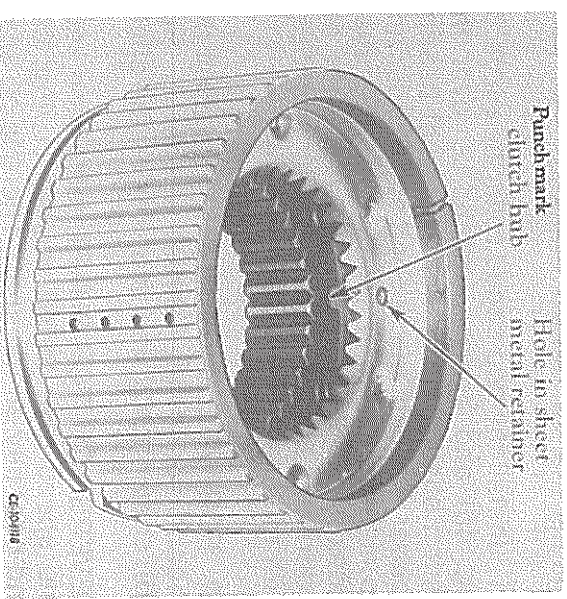

FIG. 65 — Clutch Hub Assembly
16. Be sure the small hole in the sheet metal retainer is in line with the punch mark in the clutch hub (Fig. 65). Position the clutch hub assembly onto the shaft by properly aligning the sheet metal retainer and hub splines to the clutch shaft splines (Fig. 48).
NOTE: When positioning the clutch hub assembly on the shaft, the splines of the retainer will engage the shaft splines first. The splines of the hub, which can be moved separately, may move slightly out of line with the shaft splines. If this happens, and the hub will not go down on the shaft, turn the hub very slightly in either direction until the splines engage. Do not turn the hub so the punch mark and hole (refer to Fig. 65) become misaligned. To do so will cock the springs, causing them to bind and even pop off their seats.